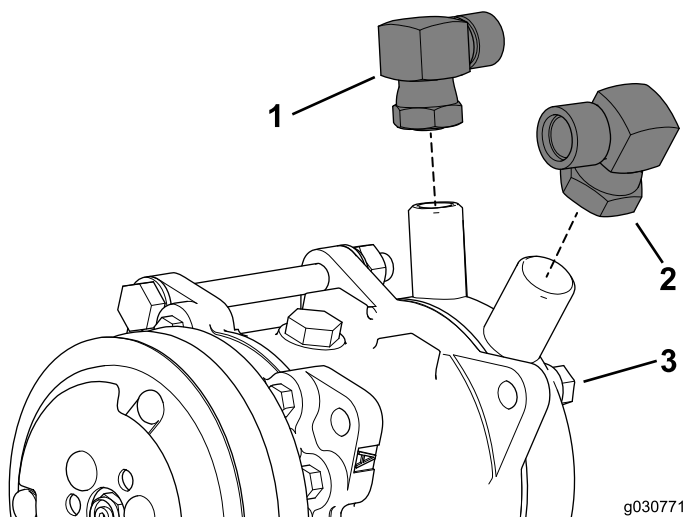

Figure 41
1. Install the right-angle fitting (7/8 inch) to the low-pressure or suction port on the air-conditioning pump (Figure 41).
3. Install the right-angle fitting (3/4 inch) to the high-pressure or discharge port on the air-conditioning pump (Figure 41).